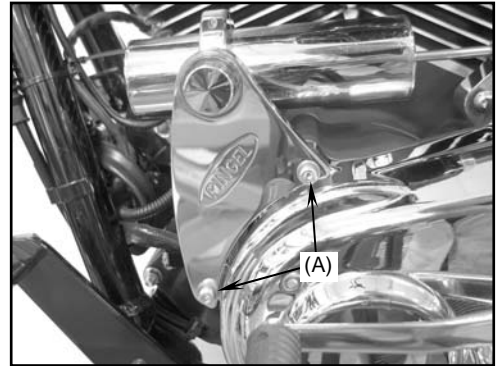

Figure 2
Install the electric shift cylinder onto the shift cylinder support bracket using the Pingel clamp and (2) ¼-20 x ¾" socket head cap screws, adjusting the cylinder so the clamp is approximately ¾ front to back (see figure 2). Just snug these bolts for now, they will need adjustment in later steps.
Remove the two top front bolts on the primary cover (see (A) in figure 2). Install the electric shift cylinder support bracket, (B) figure 2, to the primary cover using (2) ¼-20 x 4½" socket head cap screws with ½" O.D. x ¼" I.D. washers on the bolts, use thread locker on each before tightening.